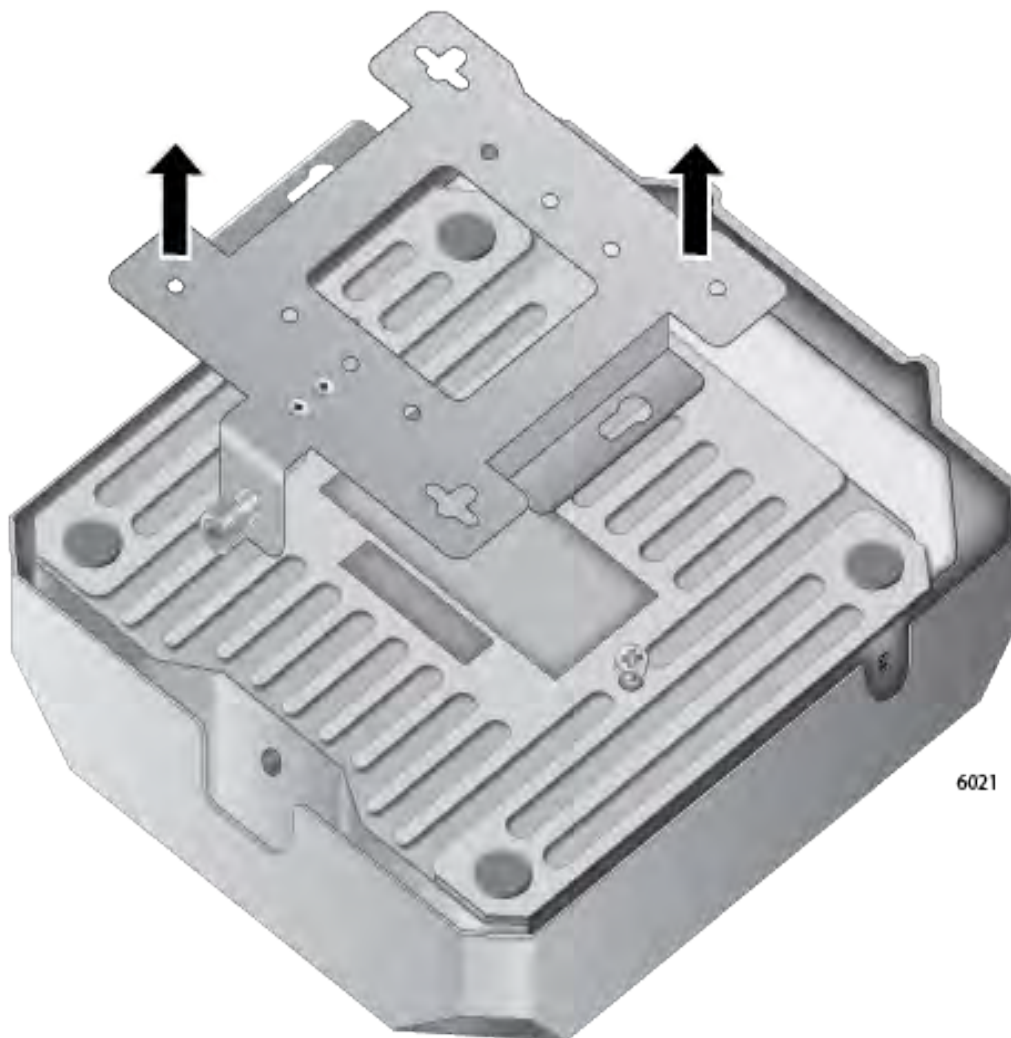

Figure 16. Removing the Mounting Bracket from the Access Point
4. Slide the mounting bracket forward and temporarily remove it from the access point. Refer to Figure 16.